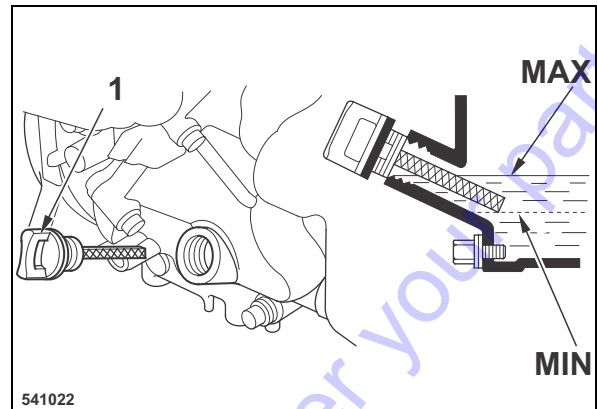

Fig. 39
- The oil level must reach the bottom edge of the filler bore (Fig. 39), top up if necessary.
- Push the oil dipstick (1) back in.